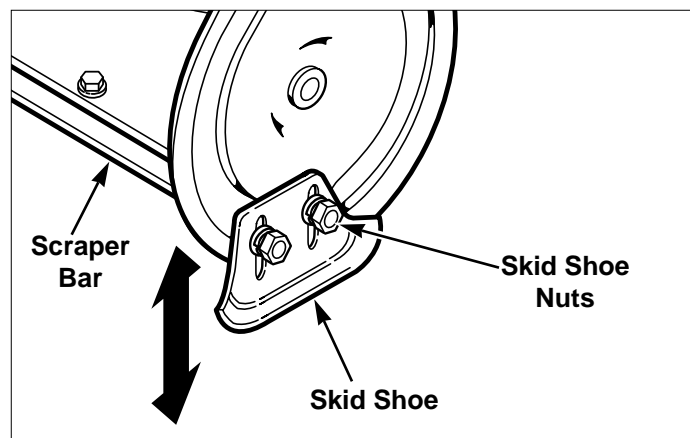

Figure 10. Skid Shoe Adjustment
The height of the scraper bar is controlled by raising or lowering the Skid Shoes (See Figure 10).
2. Remove the Pipe Plug (Figure 10).